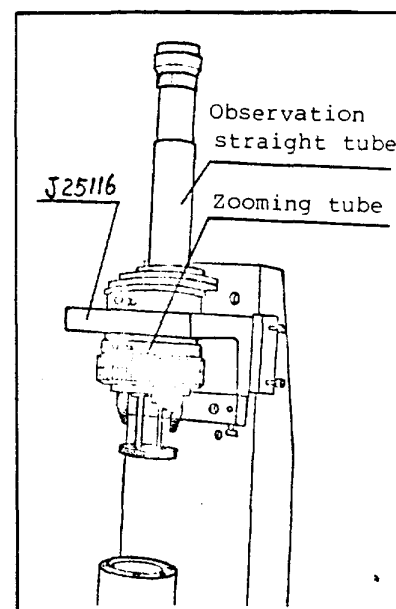

Fig. 53
- i) Place the observation straight tube on the parallel stereo tool (J25116) as shown in Fig. 53.
- ii) Mount the zooming tube on the tool J25116 as shown in Fig. 53 (Remove the primary objective G1 ~4).